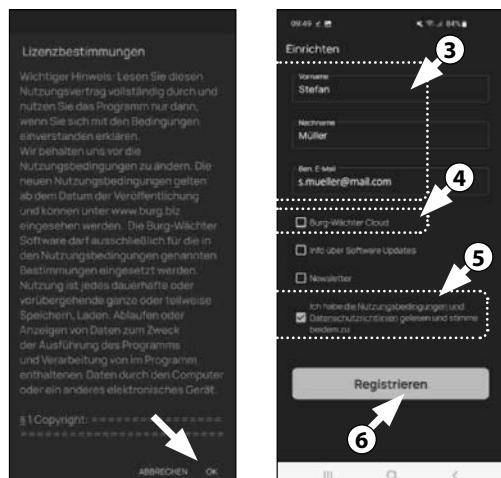

Fig. 2
- ② You will be shown licence provisions for the use of the app when you open it for the first time. Carefully read them and then confirm by clicking "OK" in the bottom right-hand corner (Fig. 2).